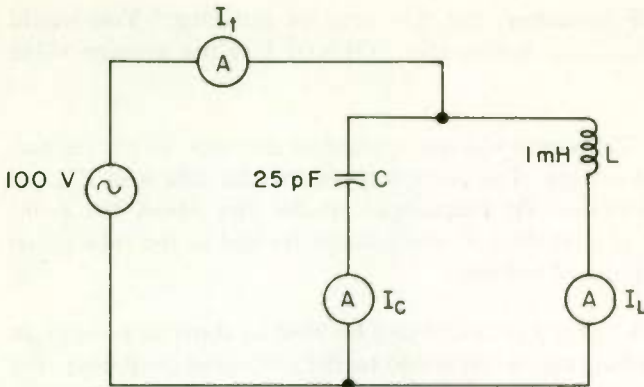
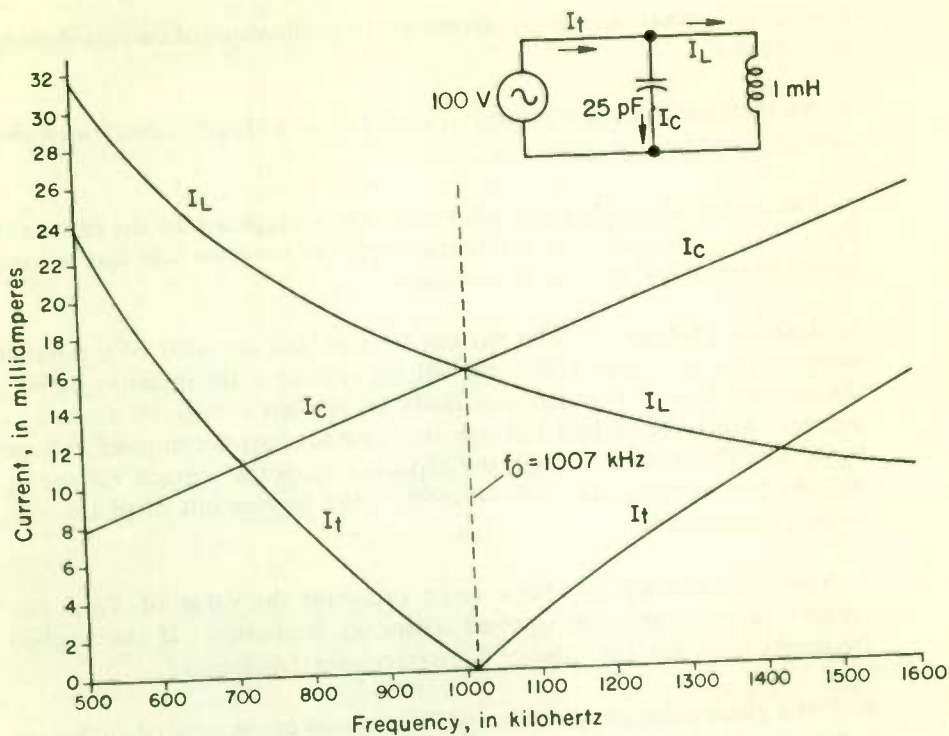
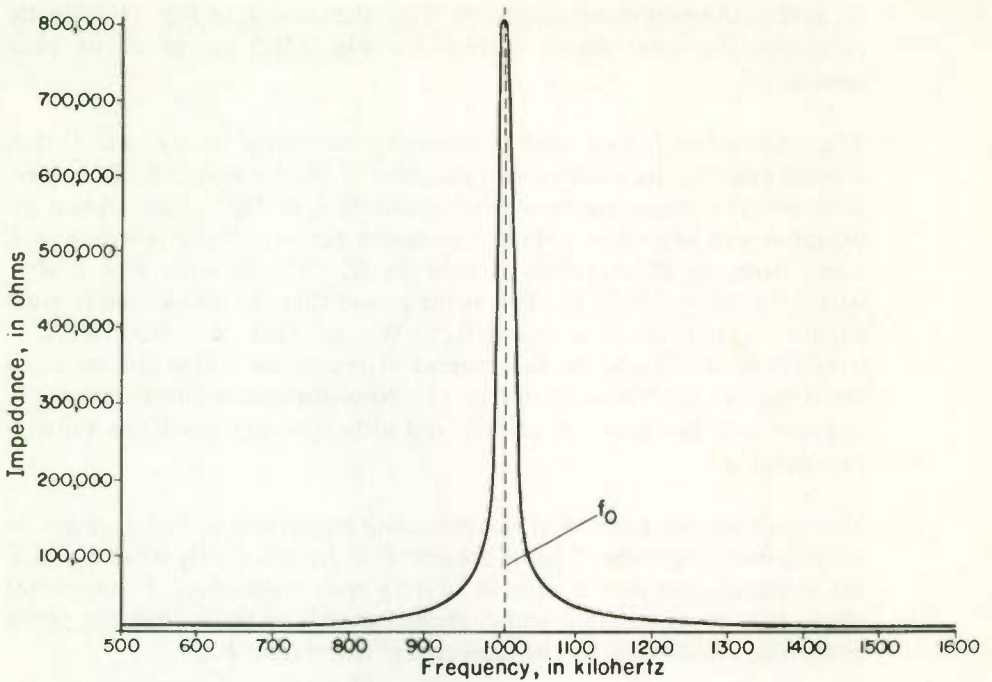
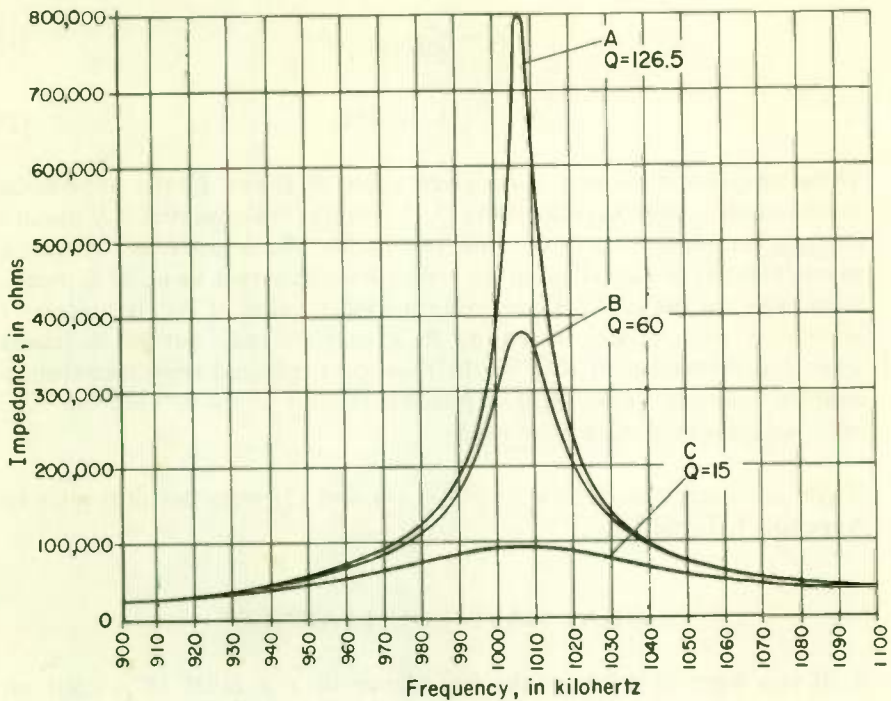

Fig. 10 An ideal parallel LC circuit with r-f ammeters to measure branch and total currents.
Fig. 11 Variation of current with frequency in a lossless LC circuit.
Fig. 14 Impedance of a parallel resonant circuit.
Fig. 15 How Q affects impedance of parallel LC circuit.
Figure 10 uses the same values of L and C and the same voltage as in the series circuit of Fig. 1, but now L and C are connected in parallel. No circuit resistance R is shown, because we will at this time consider an ideal circuit in which there is no resistance. Later we will consider the practical circuit, which must always have resistance.
Curve I_L in Fig. 11 shows the current through L at different frequencies, and I_C shows the current through C . You learned in the preceding lesson how to calculate these currents, and you should at this time make several calculations to see that your results agree with the curves of Fig. 11.
Since the current through L is 180° out of phase with the current through C , the total or line current I_T , also shown in Fig. 11, is the arithmetic difference between I_L and I_C . In any parallel LC circuit, the current through C increases with increased frequency, whereas the current through L goes down. That being the case, there must always be a frequency at which $I_L = I_C$, and that frequency is called the resonant frequency. In Fig. 11 the resonant frequency occurs at 1007 kHz, where the I_L and I_C curves cross.
At the resonant frequency in Fig. 11 I_C and I_L are each 15.8 mA and the current I_T supplied by the 100-V source is $15.8 \text{ mA} - 15.8 \text{ mA} = 0 \text{ mA}$. Thus an ideal (no resistance) parallel LC circuit would draw no current at all from the supply voltage at the resonant frequency, although current would flow in L and C ! While the line current to a practical parallel LC circuit won't be zero at resonance, it will be very small, as you will see later.
4. Zero... An ideal parallel LC circuit would have no r-f resistance. Figure 11 shows the line current to an ideal parallel resonant circuit is zero.
11. (a) Leads (b) 90... Figure 11 shows that at frequencies well above resonance the value of I_t is determined by the value of I_C . The line current leads the applied voltage by 90°.
8 CURRENTS IN A PRACTICAL PARALLEL LC CIRCUIT ... Figure 12(a) differs from Fig. 10 in that the circuit resistance R of Fig. 1 is now included. Since R is made up mostly of the coil resistance, it is shown in series with L in Fig. 12(a). Since R is in the inductive branch of the circuit, it obviously has no effect on curve I_C in Fig. 11, and its effect on
curve I_L is negligible. The latter is true because X_L is normally more than 10 times the value of R , so that the impedance of the inductive branch is essentially the same as it would be if R were not there. Therefore, the curves I_L and I_C in Fig. 11 apply equally well to both Fig. 10 and Fig. 12(a). The presence or absence of R does not noticeably change these curves.
I_L , as it would be if there were no R . Thus the curve I_t in Fig. 11 correctly represents the total circuit current for Fig. 12(a) except at or near resonance.
The total current I_t is so small at resonance compared with I_L and I_C that it is not practical to measure its value from a phasor diagram. However, from power considerations we can calculate I_t in Fig. 12(a). Since inductance and capacitance do not consume power, all the power $E \times I_t$ taken from the 100-V supply is used by R . The formula $P = I_L^2 R = 0.0158^2 \times 50 = 0.0125$ W. This is the power that the 100-V source must supply. That is, $E \times I_t = 0.0125$ W, so that $I_t = 0.0125/100 = 0.000125$ A = $125 \mu\text{A}$, the line current at resonance. This current is so small that we can't show it in Fig. 11. Nevertheless, the total current is not zero in a practical LC circuit, and although very small, its value is important.
The impedance at other frequencies can be found by the same formula, taking the values for I_t from Fig. 11. Plotting points for the impedance at various frequencies enables us to draw the curve of Fig. 14 showing the impedance at various frequencies. To get a better look at the impedance at frequencies near resonance, curve *A* in Fig. 15 has been drawn to show the impedance for frequencies between 900 and 1100 kHz.
Curves *B* and *C* in Fig. 15 show the impedance for Q values of 60 and 15. The three curves in the figure show the striking effect the circuit Q has on the impedance curve. All three curves are for the values of L and C in Fig. 12, R being increased for curves *B* and *C* as required for Q values of 60 and 15.
3. Refer to Fig. 14. As the frequency departs from resonance the impedance of the parallel LC circuit rapidly _____.